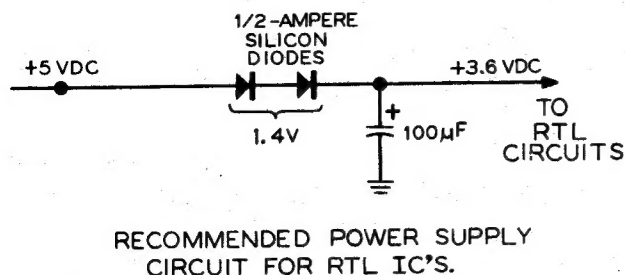

Figure 2
As shown in the following "IC Compatibility Chart," the power supplies and other circuitry of your Digital Experimenter are compatible with most of today's commonly used logic families. Figure 2 (on Page 39) shows how the power supply can be adapted for still another logic family, and Figures 3 and 4 show simple interface (connecting) circuitry between some of these families.
1. Use circuit shown in Figure 2 to derive the recommended supply voltage for RTL IC's.